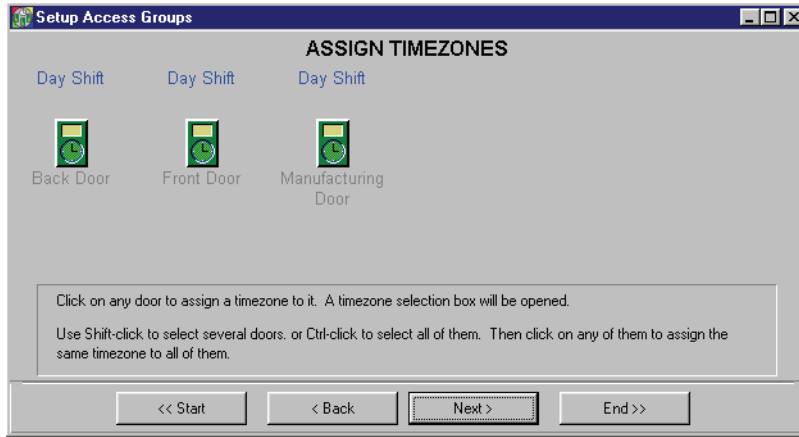

Figure 3-36: Access Group Door/Timezone Assignments
12. When complete, the access group window should look similar to Figure 3-36 on page 48 of this section.